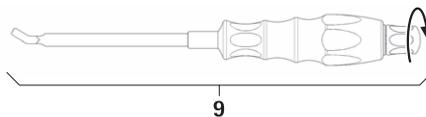

Fig. 14
- ▶ Mount rod insertion instrument 9, see Fig. 14.